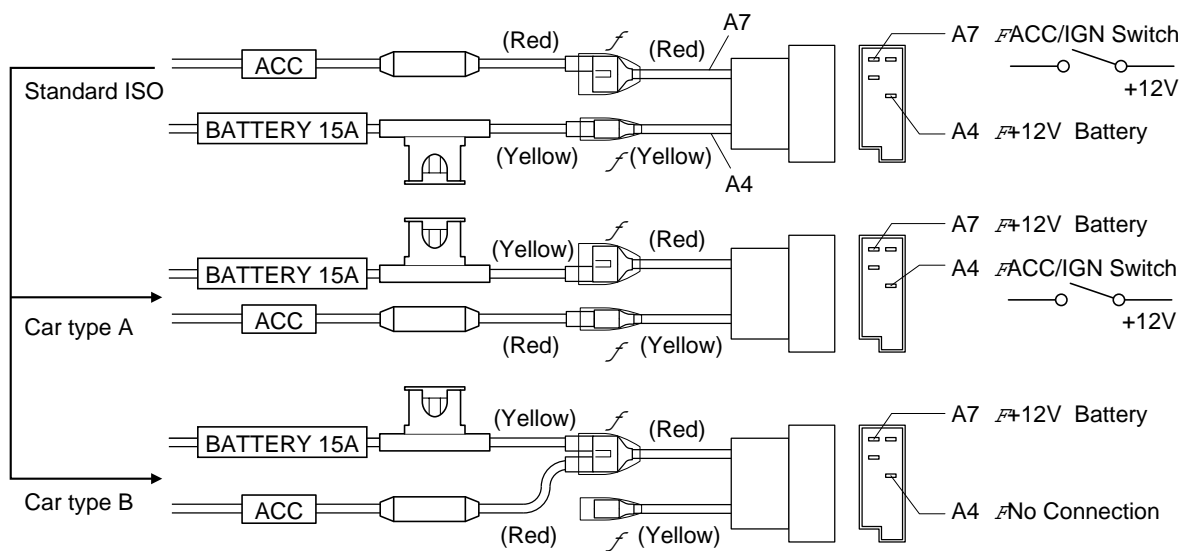

Fig.1
- In case of arrangement for Car type A or B, change connections of the red/yellow leads at the re-connectable joint (※) as shown in Fig.1.